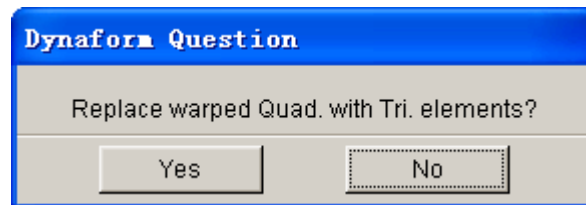

Figure 5.5.7 DYNAFORM Question dialog box
2. If elements do not pass the criteria, an eta/DYNAFORM QUESTION dialog box as illustrated in Figure 5.5.7 is displayed.